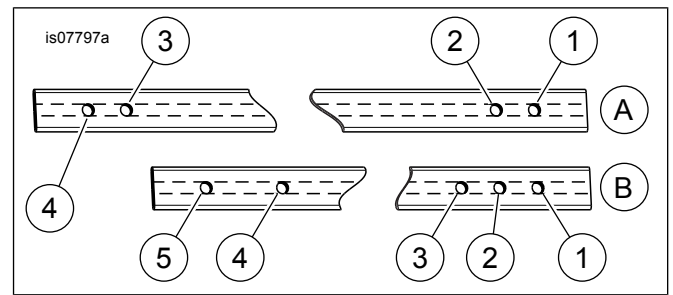

Figure 3. Grab Strap Holes
2. Determine the correct hole choice for the grab strap from Figure 3 and Table 1. Loop the strap so the seam is on the inside and the chosen holes are aligned.
2. Determine the correct hole choice for the grab strap from Figure 3 and Table 1. **FL models:FX models:**
- b. Thread a flange nut (11) onto the stud finger-tight.
- c. Determine the correct hole choice for the **free end** of the grab strap from the smaller number side in Figure 3 and Table 1. A hole from the larger number side was chosen for the end already installed.